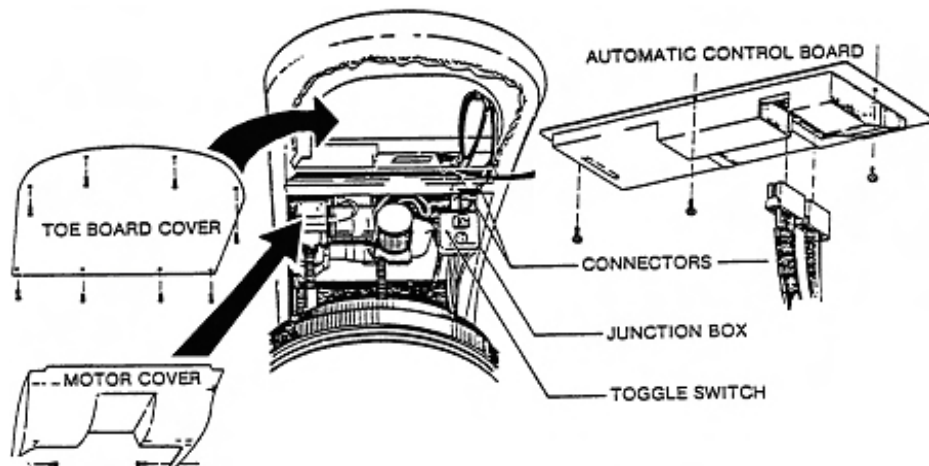

Figure 2-4. Automatic control board.
(6) The power cord from the electrical junction box and cord for the programming dials is not securely plugged into the automatic control board. Test by visual inspection. Refer to figure 2-4.